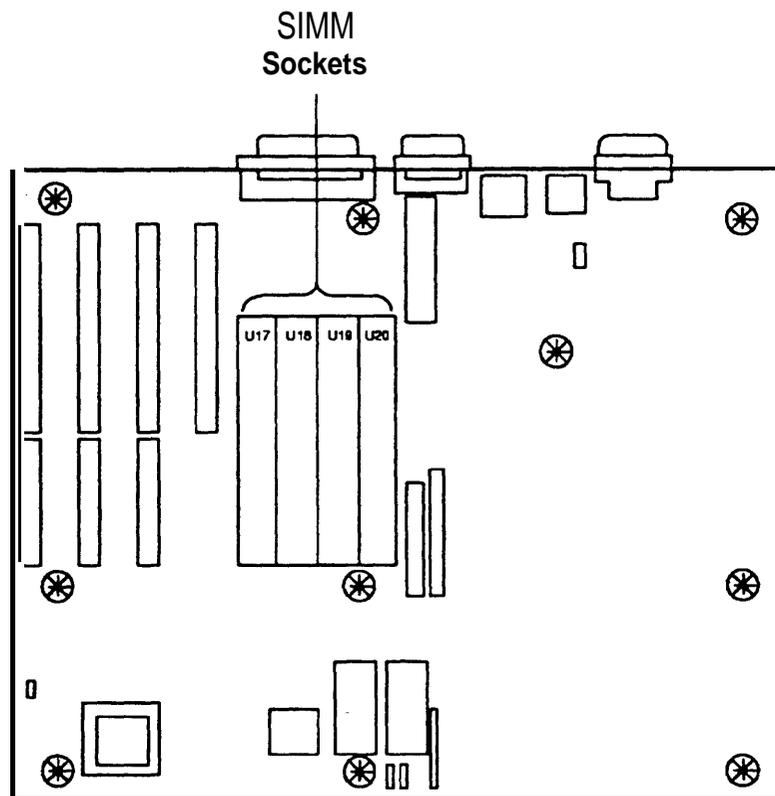

Figure 2-8. Location of Memory (S W) Sockets on the Master Controller II
1. Locate the empty Single In-line Memory Module (SIMM) sockets for the processor that you are working on, as shown in Figure 2-8.